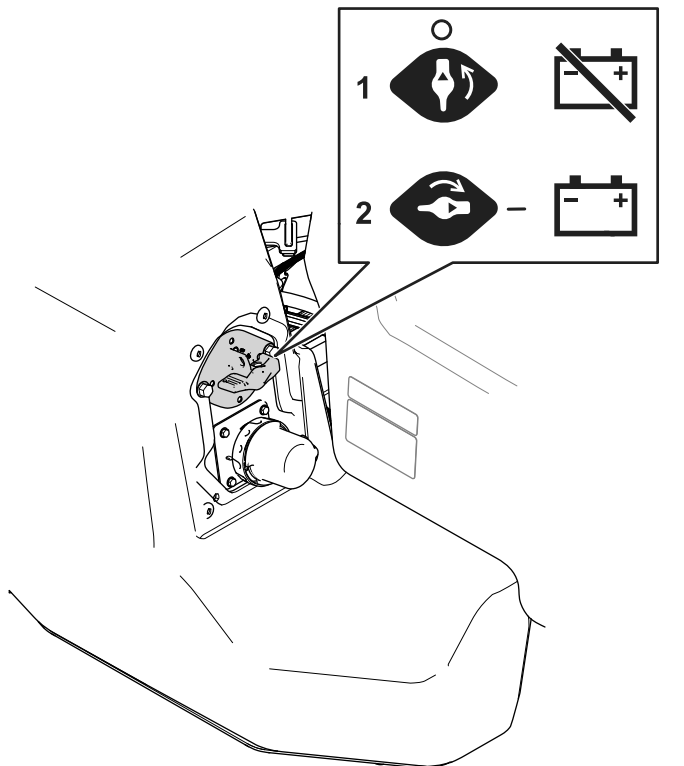

Figure 46
2. Move the battery-disconnect switch to the desired position as shown in Figure 46.